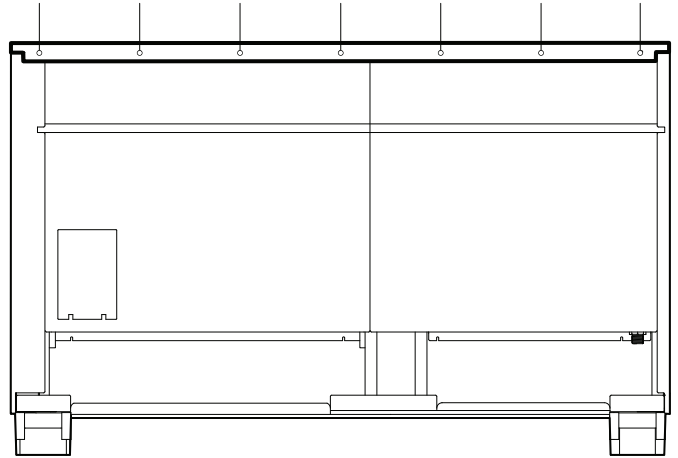

Figure 16: Flush Island Trim Rear Screw Removal
2. Remove the drill point screws securing the piece to the back panel. Lift up to fully remove (Figure 16).